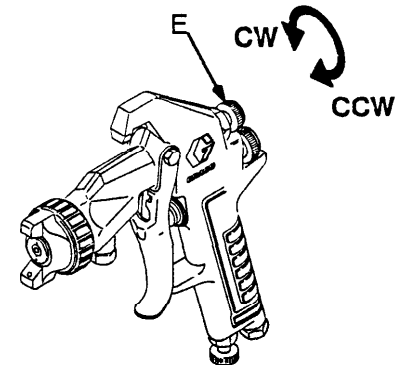

Fig. 9
3. Be sure the gun's fan pattern adjusting valve (E) has been turned OUT fully clockwise and then turned IN two full turns. See Fig. 9.
7. Adjust the fan pattern adjusting valve (E) to tune the spray pattern. Turn *counterclockwise* to widen spray pattern. Turn *clockwise* to narrow spray pattern. See Fig. 9.